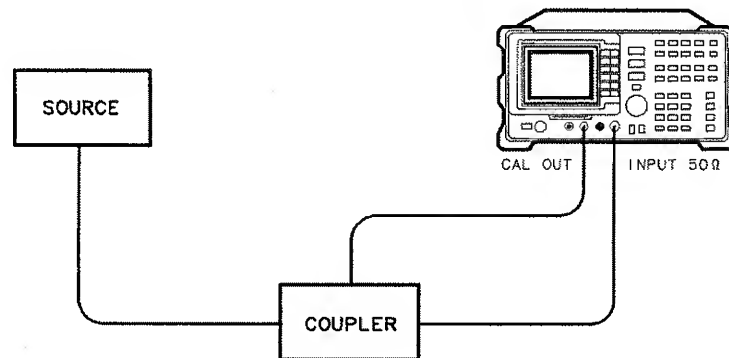

Figure 3-1. Set-Up for Obtaining Two Signals
1. To obtain two signals with a 100 kHz separation, connect the calibration signal and a signal source to the spectrum analyzer input as shown in Figure 3-1. (If available, two sources can be used.)